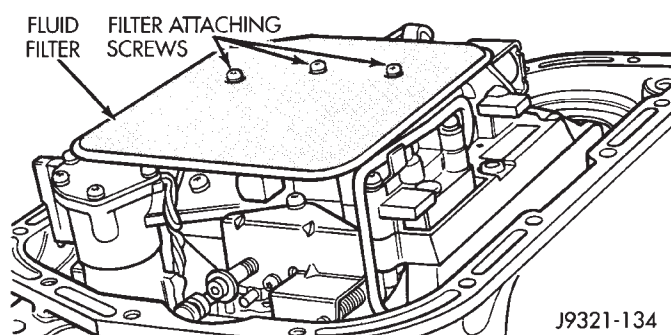

Fig. 13 Fluid Filter Removal/Installation—46RH
(14) Remove fluid filter attaching screws and remove filter (Fig. 13). Keep filter screws separate. They are longer than valve body screws.